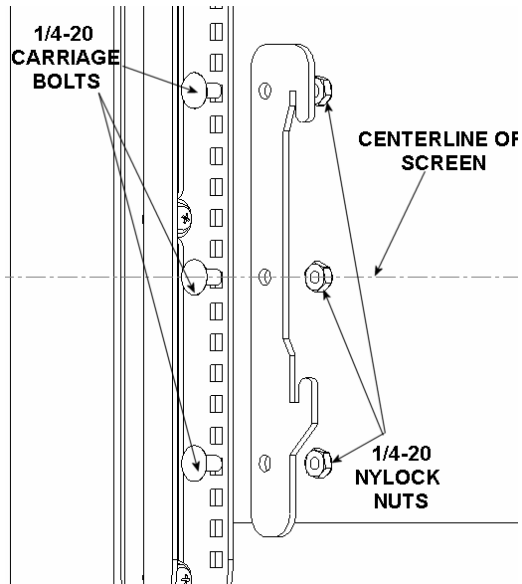

Figure 7. Attach Static Brackets
4. Attach brackets (20) with the center hole of the bracket assembly as close to the center line of the display as possible (see Figure 7), positioning the assembly with the knob side toward the outside of the display.